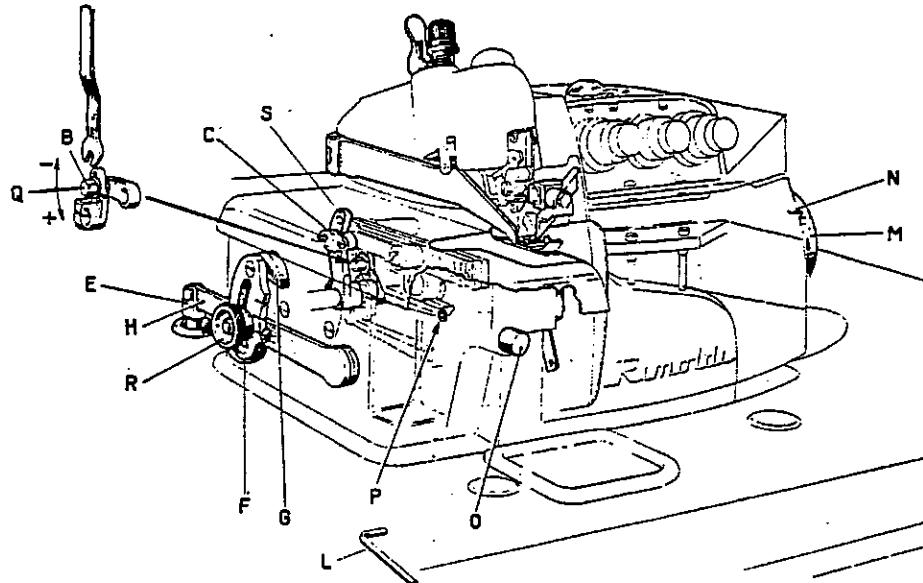

fig. 13
#### 9. Feed mechanism (fig. 13).
**e) Stitch length adjustment (fig. 13)**